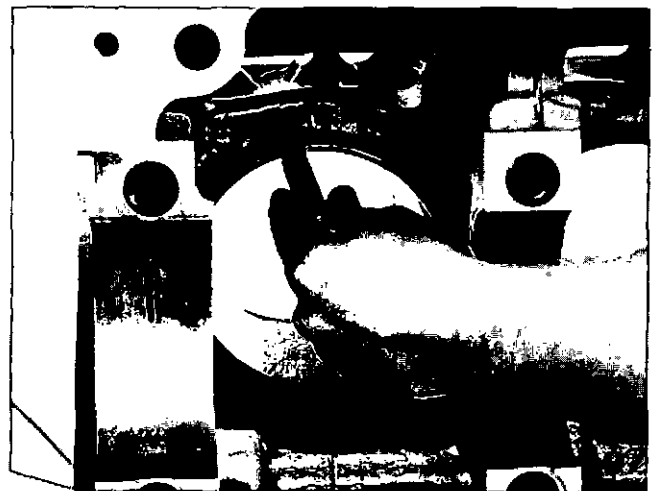

Fig. 1-8. Check The Clearance Between The Cylinder Liner And Lower Bore.
5. Measure the clearance between the liner and the lower bore, Fig. 1-8. The clearance must not be more than 0.006 inch [0.15 mm]. The liner can touch the lower bore if touching the lower bore does not cause the liner bore to be out-of-round.